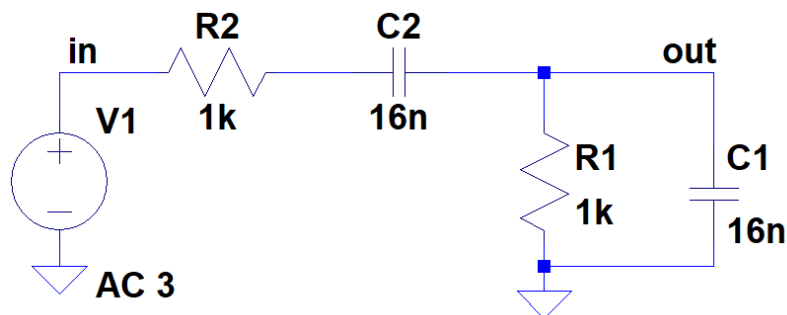

Fig. 9. Wien bridge circuit.
1. Create a Wien bridge diagram circuit as shown in Figure 9.